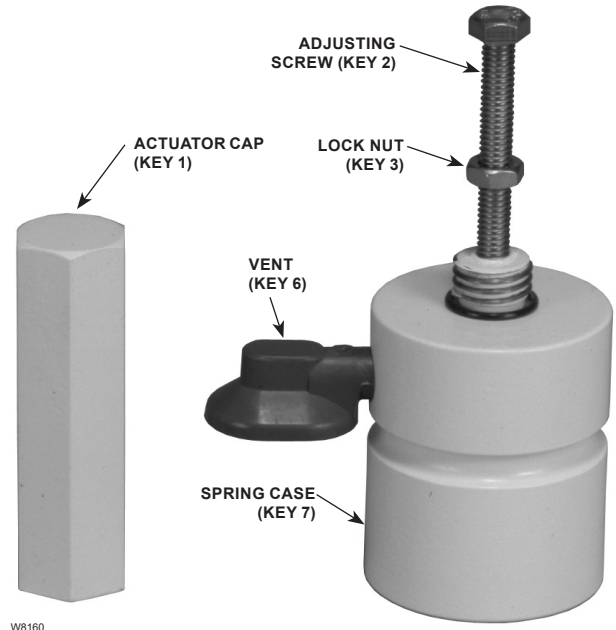

Figure 5. Spring Case, Adjusting Screw and Actuator Cap
1. Unscrew and remove the actuator cap (key 1) from the top of the spring case (key 7). See Figure 5.
2. Loosen the lock nut (key 3) and turn the adjusting screw (key 2) clockwise to raise the setpoint. (Turning the screw counter-clockwise lowers the setpoint.)
4. When the adjustment is complete, tighten the lock nut (key 3) and replace the actuator cap (key 1).
1. Remove the actuator cap (key 1) and the spring load by unthreading the adjusting screw (key 2). See Figure 5.